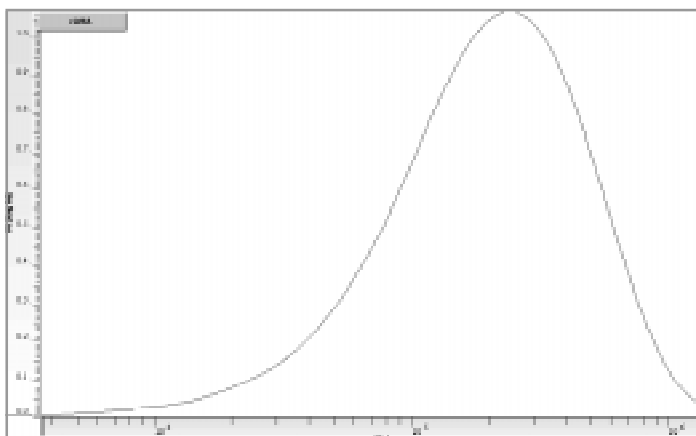

Fig. 12:
9. The molar mass distribution should look like the one shown in figure 12.